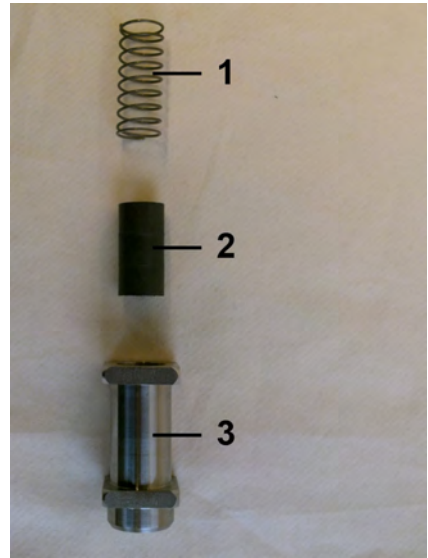

Fig. 45: Inner parts
3.  Insert spring (Fig. 45/1) with magnets (Fig. 45/2) into the float (Fig. 45/3), ensuring proper magnetic pole orientation (north pole toward device outlet).